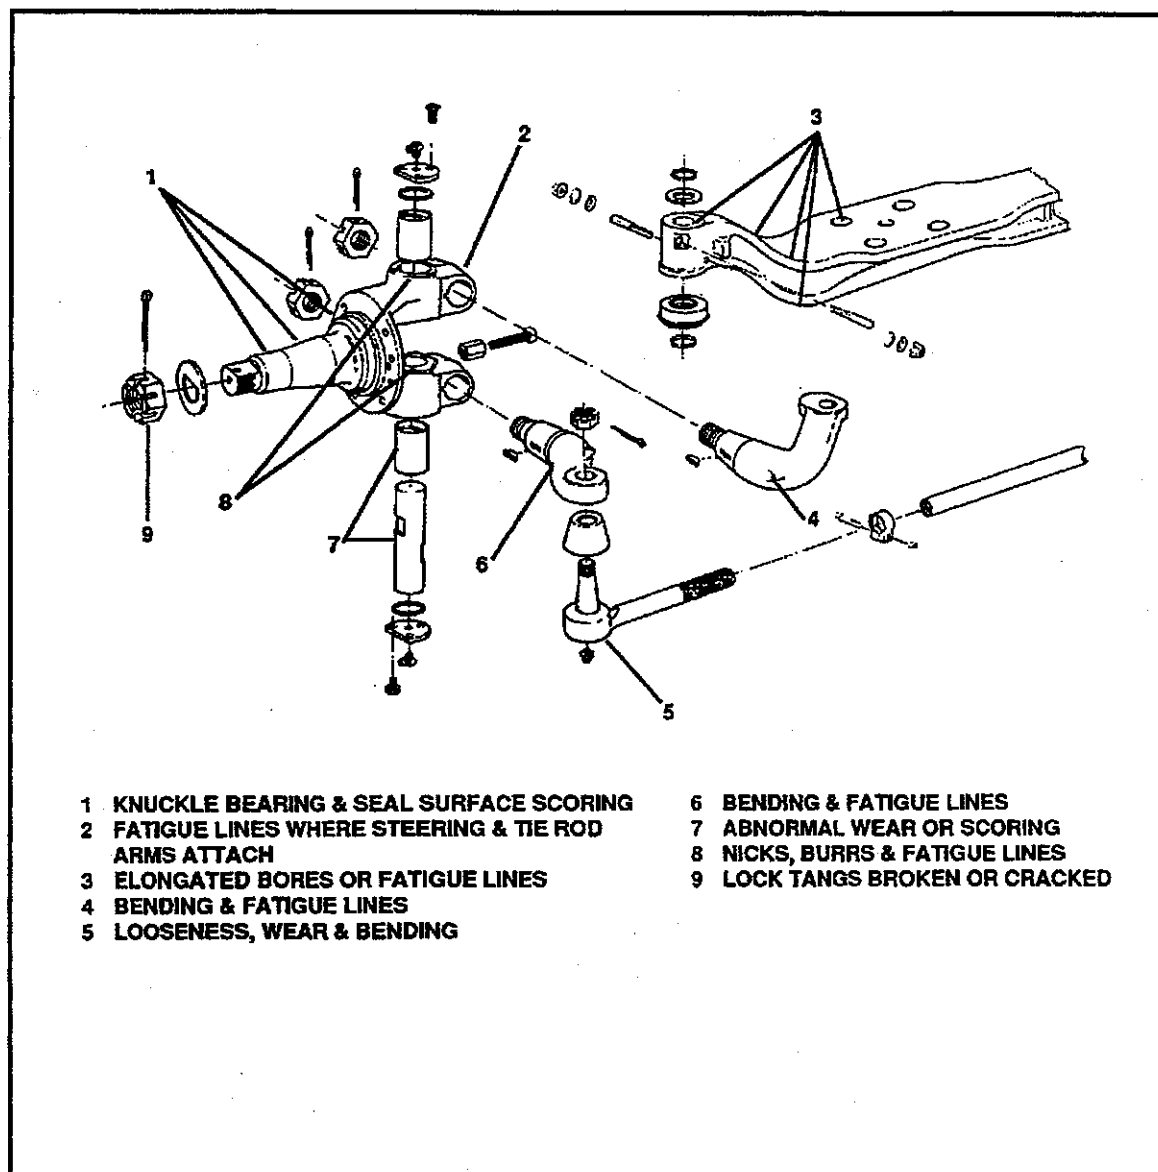

Figure 3—View of Axle Steering Knuckle Assembly
- See Figure 3—View of Axle Steering Knuckle Assembly